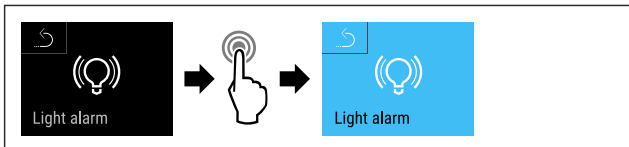

Fig. 151
- ▶ Complete steps (see Fig. 151).